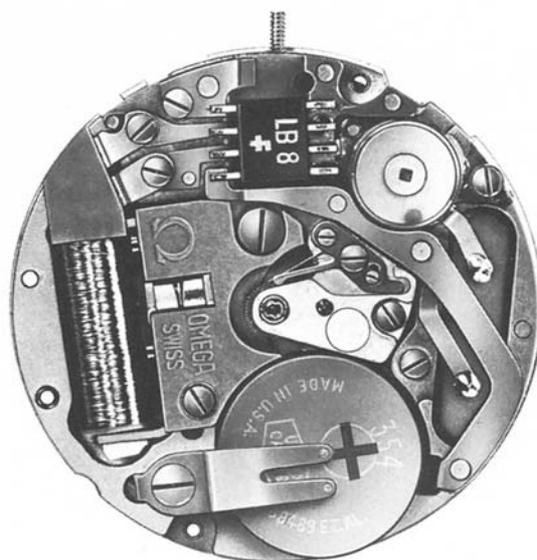

Fig. 3.1
- 1.8. Check new power cell. Even if minute leakages are apparent, it should not be used. Place power cell No 9903 in position, positive pole (+) uppermost (fig. 3.1).